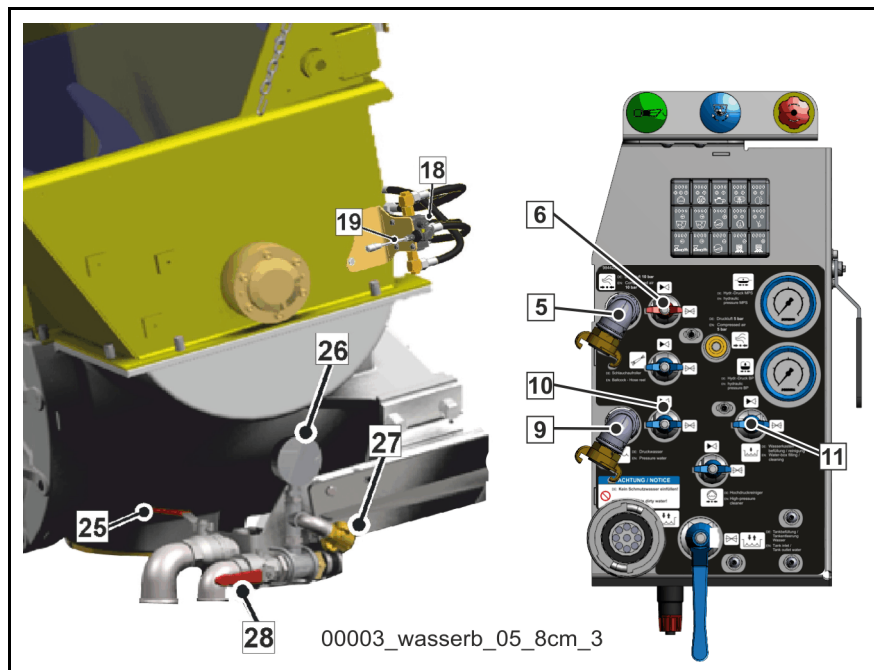
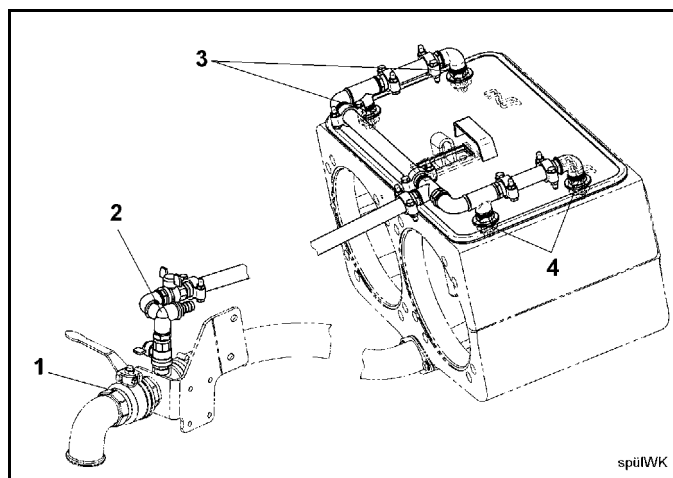

Fig. 252 Rear of the machine
Fig. 253 Flushing the water box
1. Open the drain cock (25) (**Fig. 252**) on the water box at the rear of the machine.
2. Start the water pump and route pressurised water into the spraying nozzles (3, 4) (**Fig. 253**) on the water box by switching the corresponding ball valves (11) (**Fig. 252**) on the rear of the machine and (2) (**Fig. 253**).